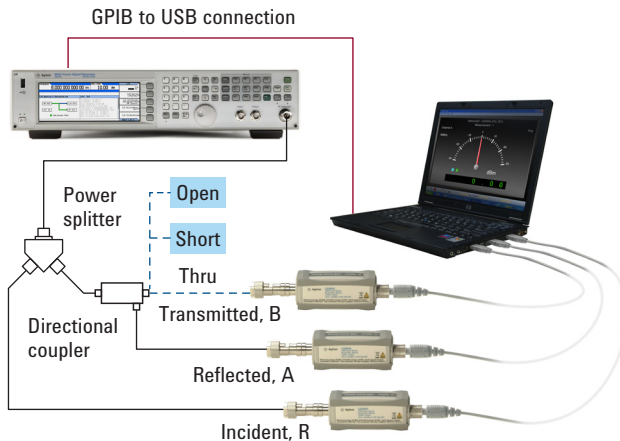
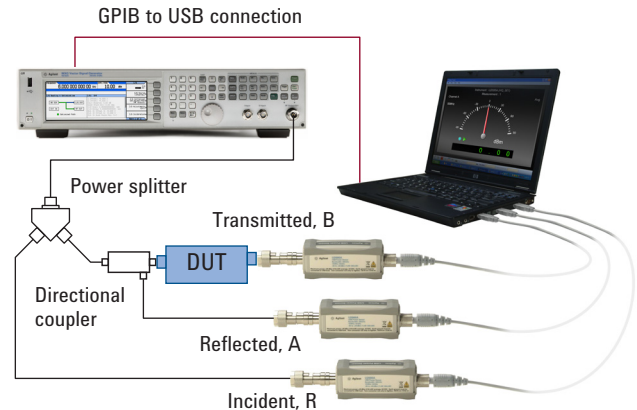

Figure 21. Calibration setup for simultaneous gain and return loss measurements
Figure 22. Measurement setup for simultaneous gain and return loss measurements
It is possible to set up three U2000 Series USB sensors for simultaneous transmission and reflection measurements. Figure 21 and Figure 22 show the calibration and measurement configurations.
1. Set up the instruments as shown in Figure 21.
5. Connect the DUT as in Figure 22 and make simultaneous transmission and reflection measurements.